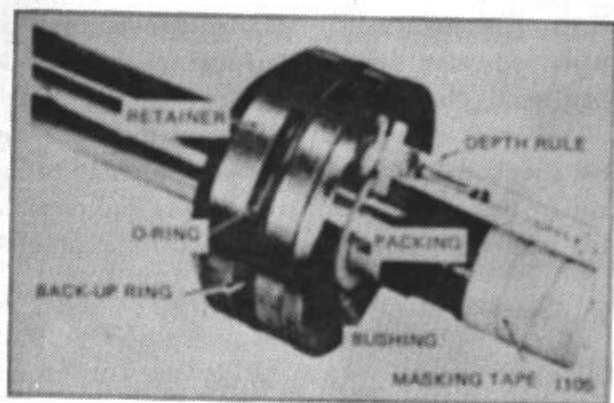
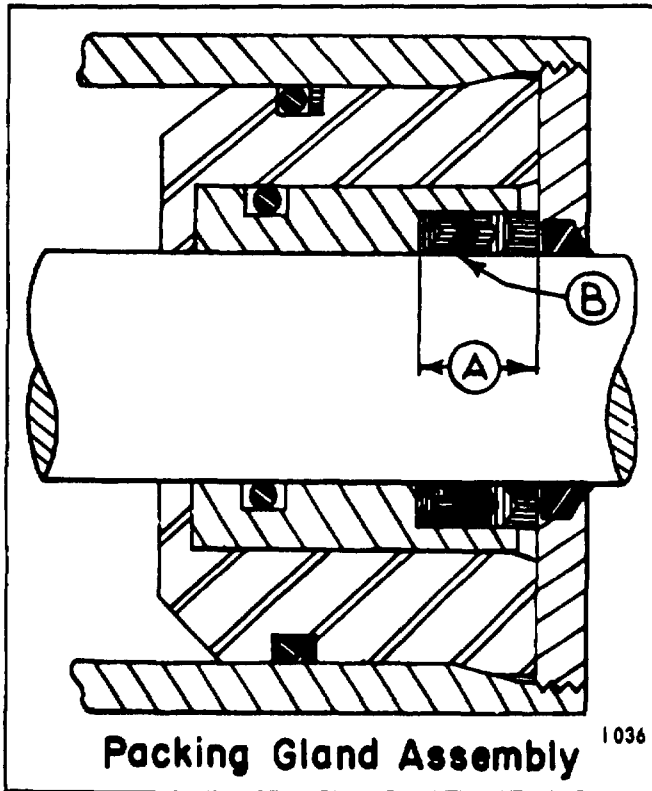
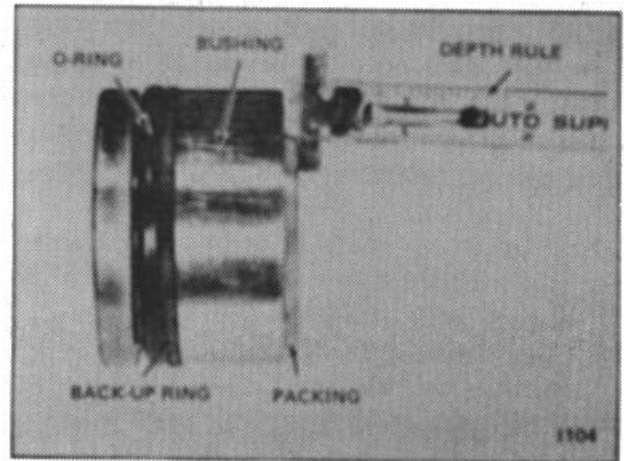

Figure 36.
Figure 37.
Figure 39.
With the bushing seated in the retainer and a new packing set in place, the packing may extend beyond the end of retainer about 1/16 of an inch. (Fig. 36)
1. The stack height (A), Figures 37 and 38, of the packing should be such as to fit just snug in the installed position. There should not be any excessive preloading of the packing. However, the bushing may extend approximately 1/16 inch beyond the retainer, especially when a new packing set is installed. (Fig. 36) The initial sealing action of the packing is provided by dimensional tolerances. Therefore, when installing a new packing set, the packing should extend approximately 1/8 inch beyond the bushing. (Fig. 39) Under no circumstances should the packing height be even with the end of bushing. It should always protrude. This insures that the packing lips will seal on the initial surge.
higher pressures. The neophrene packing (B), Figures 37 and 38 is to provide extra sealing action at low pressure.